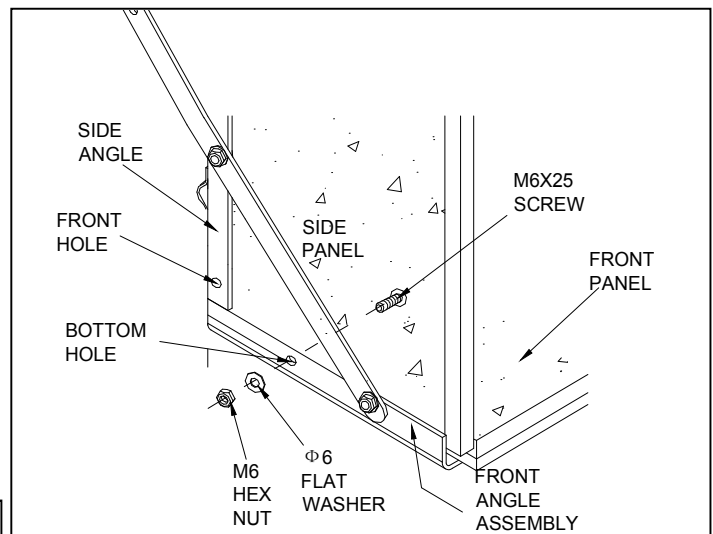

**FIGURE 7**
9. Position a Side Panel against a Side Angle, resting it down on top of the front panel. Place a support strap on the outside of the side angle and start a M6X30 screw through the **second hole** in the side panel, the side angle and the support strap. Secure with a flat washer and hex nut. **Make only finger tight at this time.** See figure 7.
10. Start a M6X30 screw through the top hole in the side panel, the front angle assembly and the support strap. Secure with a flat washer and hex nut. **Make only finger tight at this time.** See figure 7.